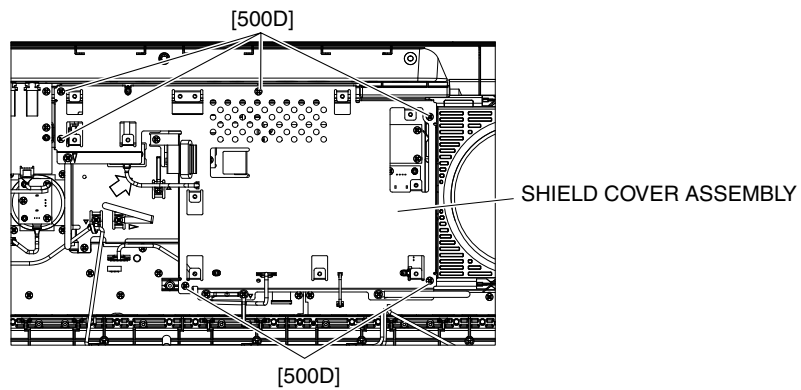

Fig. 6
- 8-4. Remove the six (6) screws marked [500D]. The shield cover assembly can then be removed. (Fig. 6)